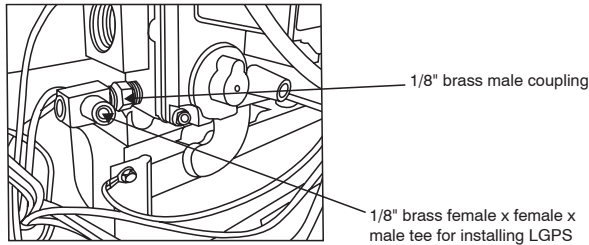

Fig. 11 - Gas Valve Inlet Pressure Tap
3. Apply pipe dope sparingly to one end of 1/8-in. (3 mm) brass male coupling (provided in kit) and install the doped end in 1/8-in. (3 mm) tapped opening in gas valve inlet pressure-tap. Tighten fitting with a small open-end wrench. (See Fig. 11.)
4. Apply pipe dope sparingly to opposite end of the 1/8-in. (3 mm) brass coupling (provided in kit). Install the female end of the female x female x male tee on the brass coupling. Tighten coupling finger tight. Use a small open-end wrench for final tightening. (See Fig. 11.)
6. Connect a manometer to the open end of the tee installed in the gas valve. (See Fig. 11 and 12.)
1. Verify manometer is connected to the brass tee connected to the inlet pressure tap on gas valve. (See Fig. 11 or 12.)
12. Apply pipe dope sparingly to end of inlet gas pipe plug and install into unused end of 1/8-in. (3 mm) tee. Use a small back-up wrench on tee when tightening gas inlet pipe plug. (See Fig. 11 or 12.)